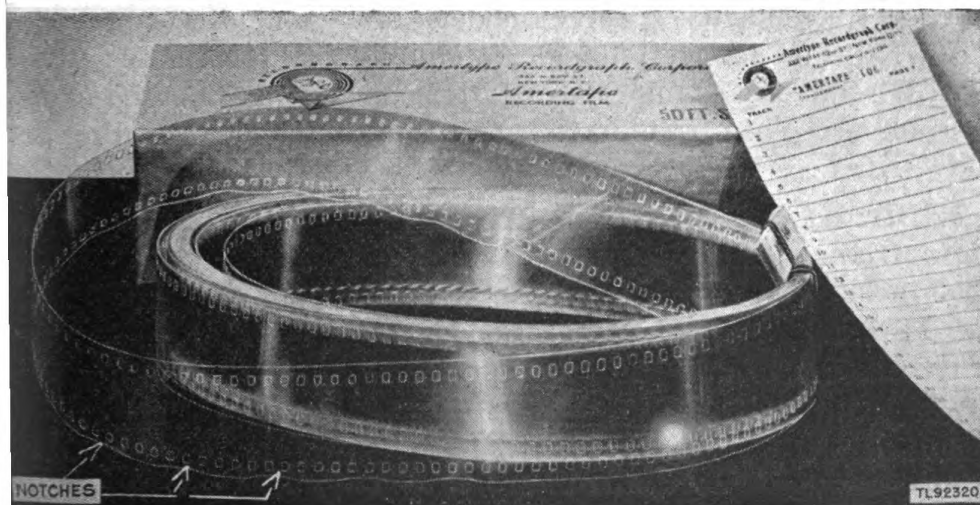

Figure 9. Recording film.
i. RECORDING FILM (fig. 9). Noncombustible, cellulose acetate, straight, recording film is supplied in approximately 50-foot lengths. Reverse recording film is available. The 50-foot straight film provides approximately  $1\frac{1}{2}$  hours recording at the 60-foot-